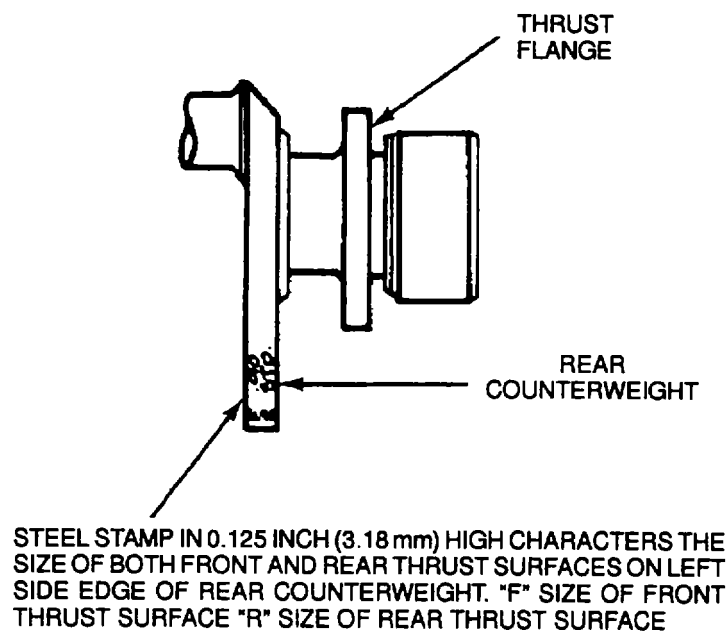

Figure 9-55. Identification of Thrust Surface Sizes
- (4) Using steel stamps having 0.125 inch (3.18 mm) characters, stamp the rear counterweight to identify the regrind size of both the front and the rear thrust surface (Figure 9-55).